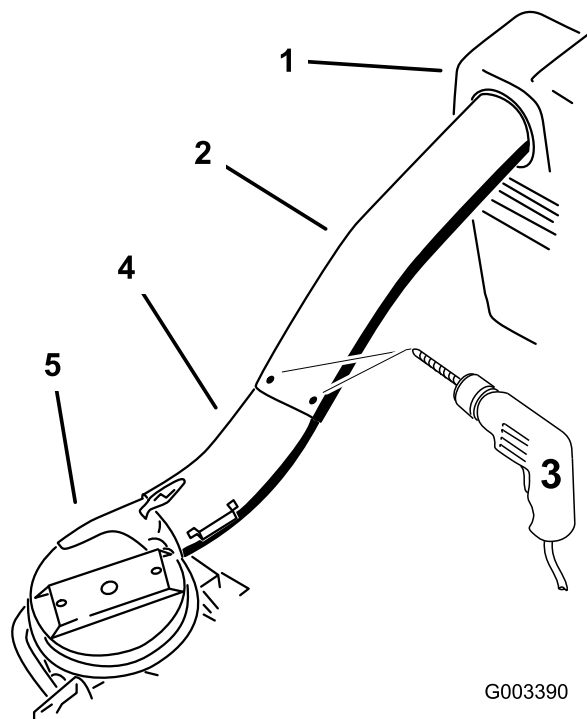

Figure 25
12. Using the three holes or indentations in the upper tube as a template, drill three holes (7/32 inch diameter) where the upper and lower tubes join together (Figure 25).